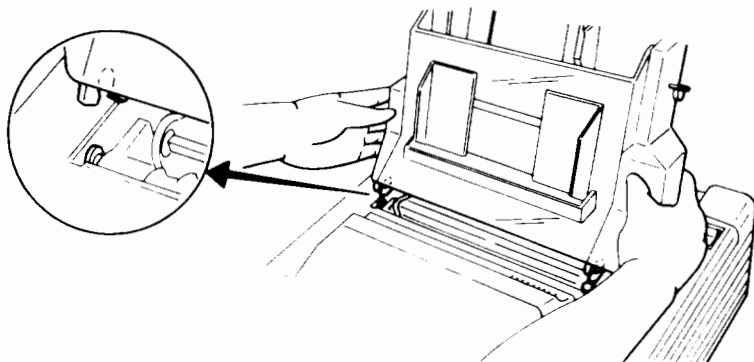

Figure 2-15 Installing the paper bin
- a. With the paper bin tilted slightly towards the front of the printer, place the left and right mounting arms over the corresponding pins in the printer. Refer to Figure 2-15.